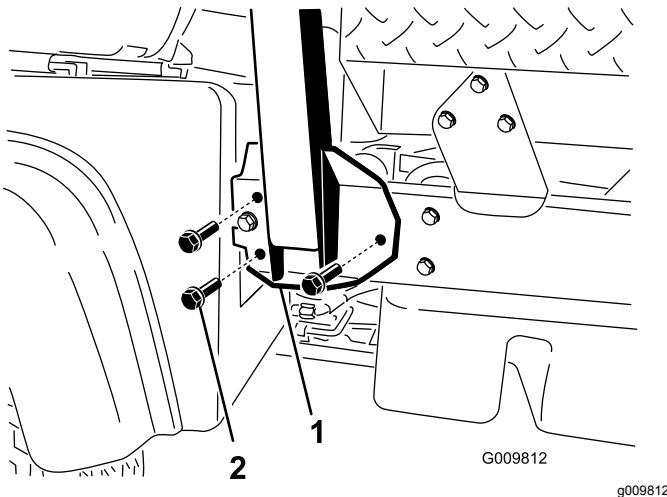

Figure 4
2. Align each side of the ROPS with the mounting holes on each side of the machine frame (Figure 4).
3. Secure the ROPS mounting bracket to the machine frame using 3 flange-head bolts (1/2 x 1-1/4 inches) on each side (Figure 4).